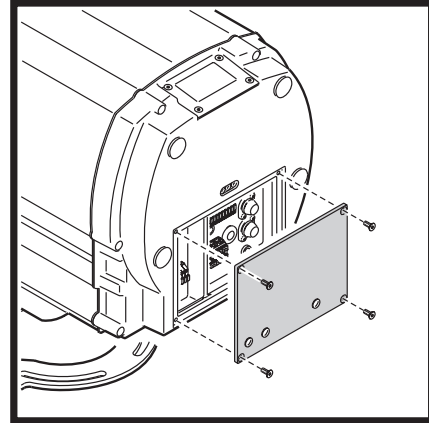

Figure 6: Connections compartment cover plate
3. See Figure 6. Loosen the screws in the rear cover plate and carefully remove the plate and seal.